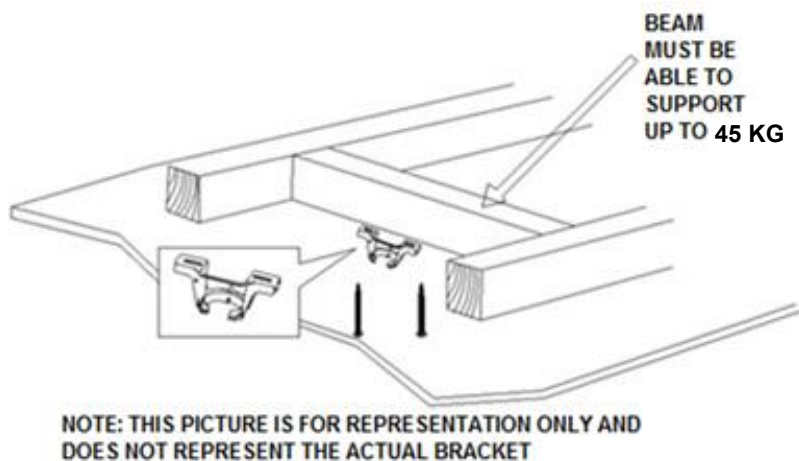

Fig. 2
- Install the hanging bracket to the ceiling joist or structure that is capable of carrying a load of at least 45 kg, with two long screws provided. Ensure at least 30mm of the screw is threaded into the support. (Fig. 2)